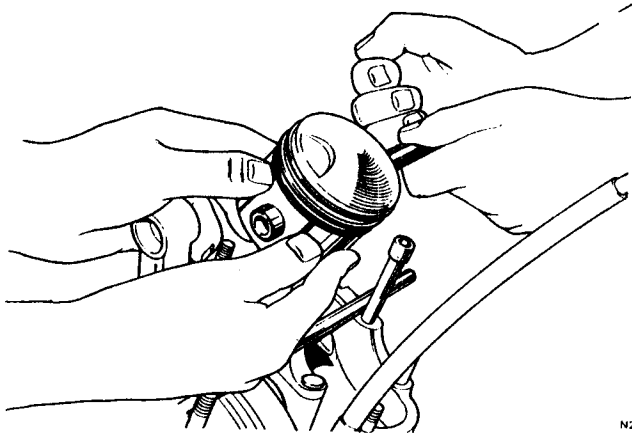

Fig. C11 Supporting piston body whilst pushing out gudgeon pin
- 5 Before removing the piston, support the body (*Fig. C11*) shows the piston body being supported by a second operative) and push out the first wrist (gudgeon) pin, then the second, using a suitable sized implement such as an aluminium drift.